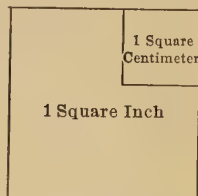

FIG. 3. — Relative sizes of the square inch and the square centimeter.
9. Units of area. The unit of area which is most extensively used is the area of a square of which the side is of unit length. Thus the area of a city house lot is reckoned in square feet, where the unit is a square one foot on each side. In the laboratory, area is often measured in square centimeters (cm^2), the unit being a square one centimeter on each side. It is evident from figure 3 that one square inch is equal to about 6 square centimeters. More accurately, it is 2.54×2.54 , or 6.45 square centimeters.